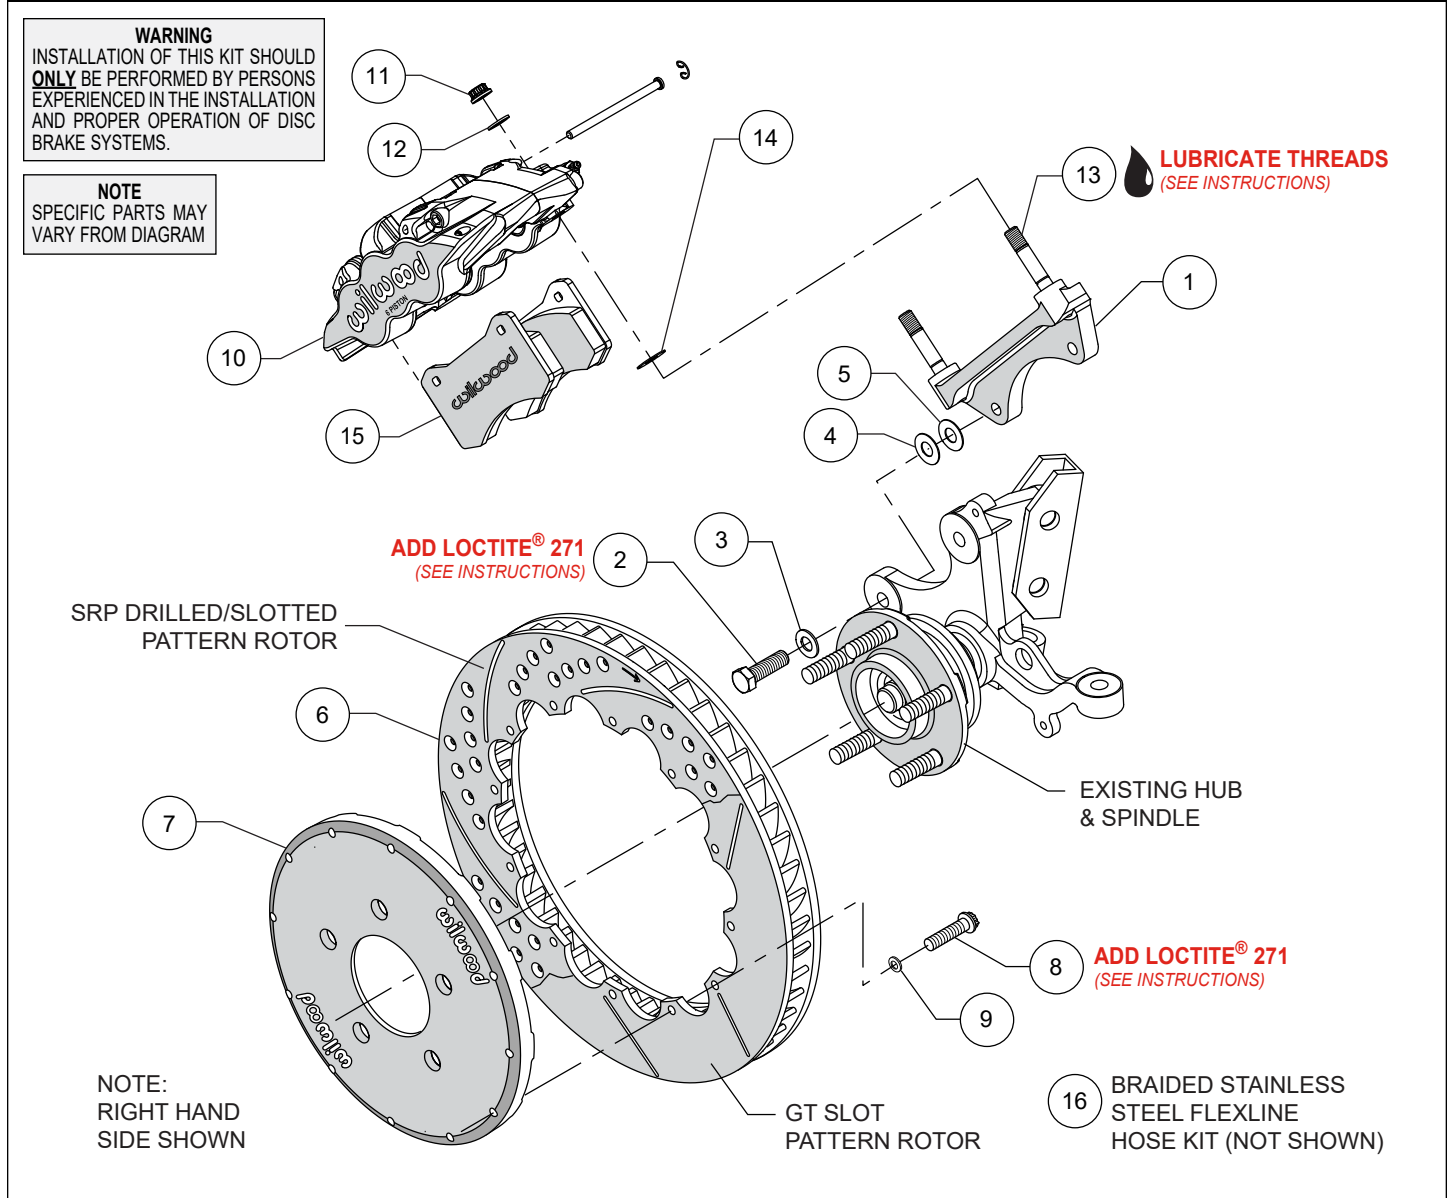
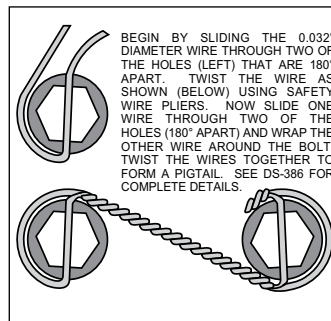

Figure 1. Typical Installation Configuration
Figure 3. Safety Wire Diagram
**NOTE:** Numbers in parenthesis refer to the parts list and Figure 1 on the preceding pages.
- The caliper mount bracket (1) should initially be installed with clean, dry threads on the mounting bolts. Orient the bracket, as shown in Figure 1 and Photo 1, and install using bolts (2) and washers (3). Initially place one .033" thick shim (4) on each bolt between the bracket and upright, Figure 1. Temporarily tighten the mounting bolts. **NOTE:** *The bracket must fit squarely against the mount bosses on the upright. Inspect for interference from casting irregularities, machining ridges, burrs, etc.* Later, after the caliper alignment has been checked, the mount bolts will be secured using red *Loctite*® 271.
- Orient the rotor (6) and the hat (7) as shown in Figure 1 and Photo 2. Attach rotor to hat using bolts (8) and washers (9). Using an alternating sequence, apply red *Loctite*® 271 to the threads, and torque to 155 **in-lbs**. For an added measure of security, the bolts may be safety wired using standard 0.032 inch diameter stainless steel safety wire as shown in Figure 3. Refer to Wilwood's data sheet DS-386 (available at [www.wilwood.com/Pdf/DataSheets/ds386.pdf](http://www.wilwood.com/Pdf/DataSheets/ds386.pdf)) for complete safety wire installation instructions.
- NOTE:** *This kit contains distinct right and left hand calipers that must be mounted in a specific direction, as described below.* Lubricate the caliper mounting studs (13) with lightweight oil. Initially place one .030" thick shim (14) on each stud between the caliper and the bracket, as shown in Figure 1 and Photo 4. Mount the caliper (10) onto the bracket (1) using lock nuts (11) and washers (12), Figure 1. Temporarily tighten the lock nuts. Ensure that the caliper is mounted so the largest pistons are at the rotor exit end of the caliper, in relation to the direction of the rotor. View the rotor through the top opening of the caliper. The rotor should be centered in the caliper, Photo 5. If not, adjust by adding or subtracting shims (4 and/or 5) between the bracket and the upright. Always use the same amount of shims on each of the two mounting bolts. Once the caliper alignment is correct, remove the bracket mounting bolts one at a time, apply red *Loctite*® 271 to the threads, and torque to 60 ft-lbs.
- Remove the caliper (10), then remove the two pad retaining pins from the caliper by carefully popping out the pin retaining clips and sliding out the pins. Insert the brake pads (15) into the caliper from the bottom, Figure 1 and Photo 6. With the friction material facing the rotor, secure the brake pads in place with the pad retaining pins and clips, Photo 7. Reinstall the caliper onto the caliper mounting bracket and temporarily tighten the lock nuts (11).